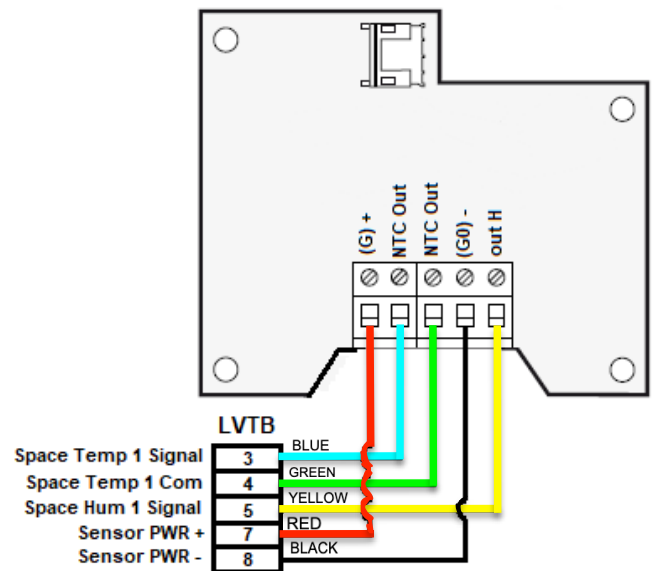

Figure 1. Sensor Terminal Connections
4. Must use shielded 5 conductor or greater control wire for connection. Wire as indicated below in figure 1.